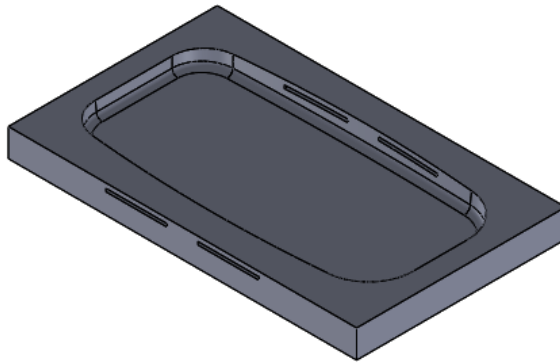

Figure 21-62 Cavity after creating the slots
- h. Create the slots in the cavity for the insertion of inserts, refer to Figure 21-62.
The final cavity after creating the slots is displayed in Figure 21-62.